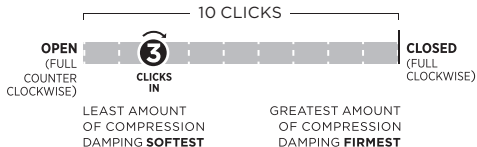

Fig. 6: Passenger's Side: Factory Race Series (Left), Performance Series (Right)
4. Reusing the OEM hardware, install the new FOX shock with the reservoir pointing towards the rear and angled outwards (Fig. 6). Torque to OEM specifications.